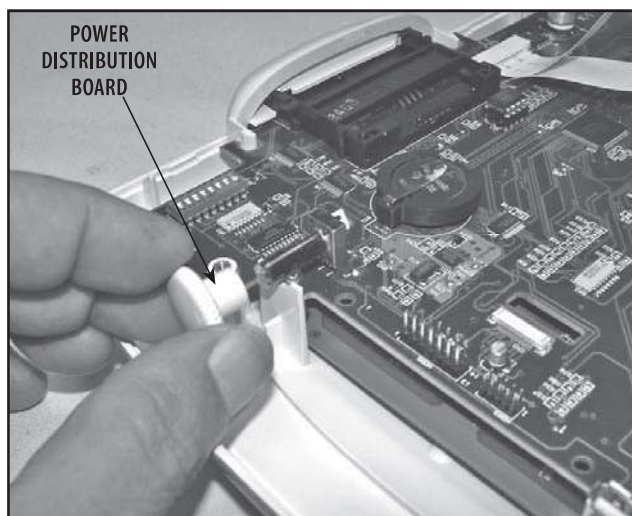

FIGURE 6.25
3. Remove the Contrast Knob. See Figure 6.25.